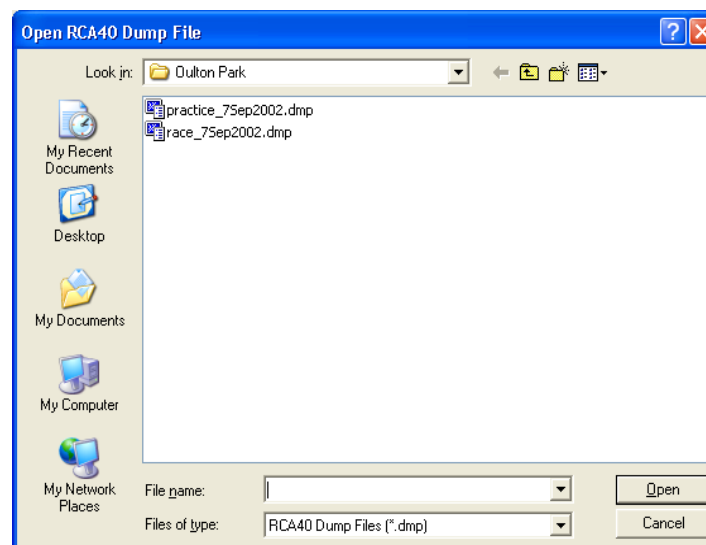

Figure 17 - Open RCA40 Dump File Dialog
1. Select **File** ➔ **Import Old Data** from the main menu. The Open RCA40 Dump File Dialog (Figure 17) appears.